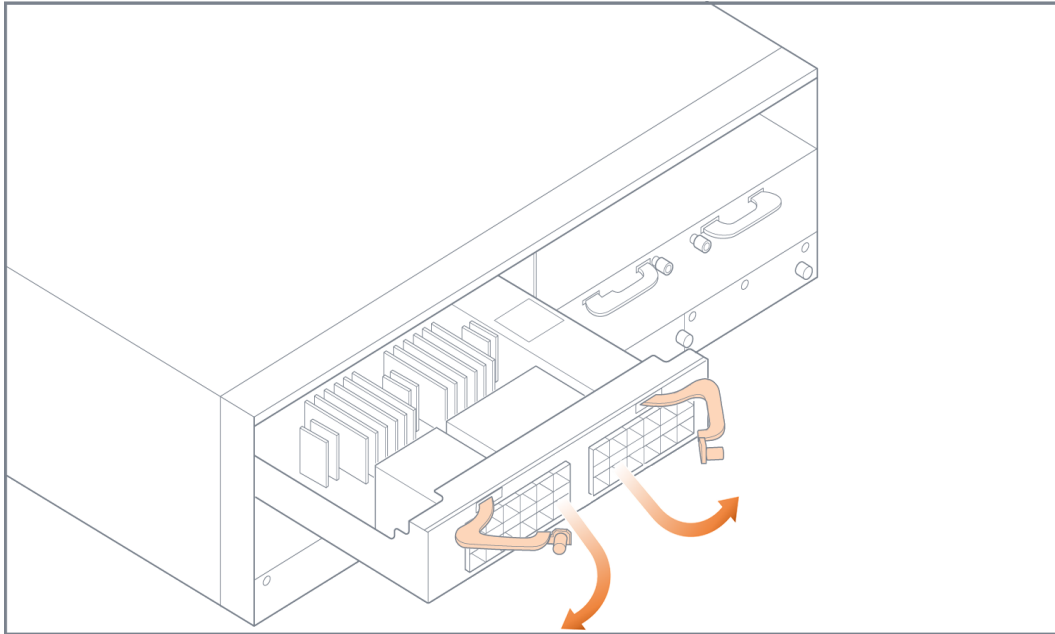

Figure 3-11: Module Levers
1. Pull out the two levers at the top of the module as shown in Figure 3-11 on page 66.